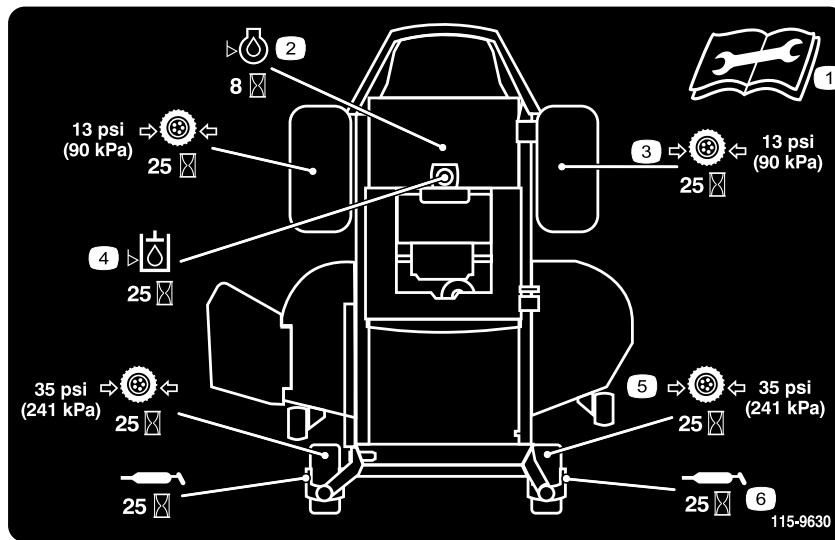

Figure 36
3. Clean the grease fittings (Figure 37 and Figure 36) with a rag. Make sure to scrape any paint off of the front of the fitting(s).
4. Connect a grease gun to each fitting (Figure 37 and Figure 36). Pump grease into the fittings until grease begins to ooze out of the bearings.